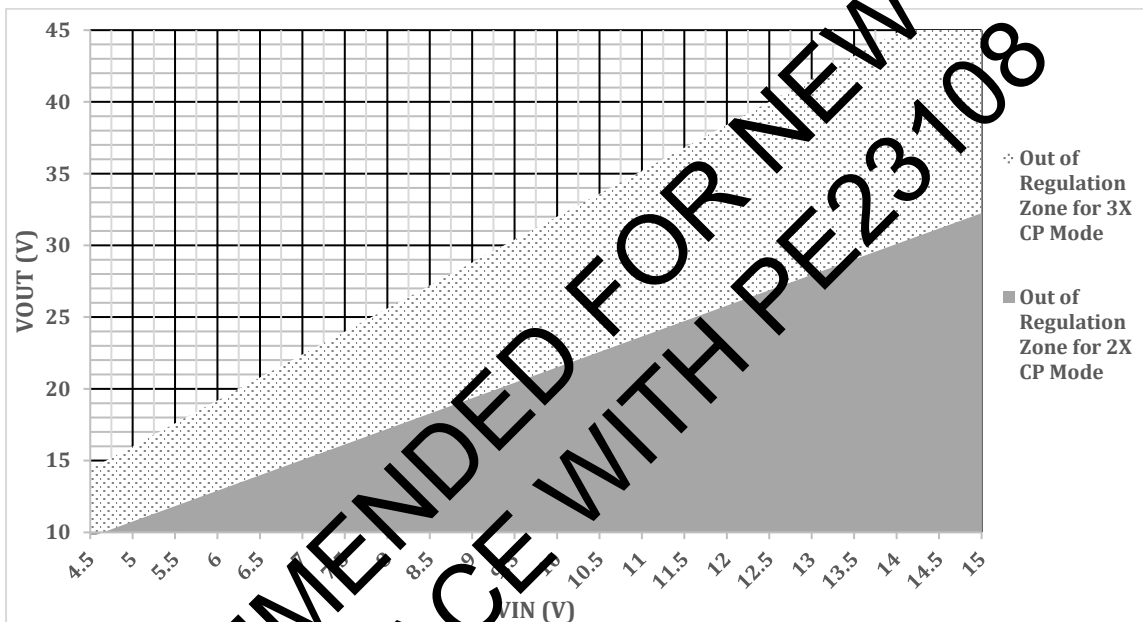

Figure 5. V_{OUT} vs V_{IN} Requirement
2. The V_{IN} and V_{OUT} ranges must meet the valid operating regions as shown in Figure 5.
Figure 5 shows a graph of the output voltage versus input voltage. In addition to maintaining the minimum V_{OUT}/V_{IN} requirement for the 2x/3x charge pump modes, the graph shows a region called “Out of Regulation Zone for 2x/3x Charge Pump Mode” not supported for normal operation. Failure to maintain the minimum V_{OUT}/V_{IN} requirement or attempting to operate in the “Out of Regulation Zone for 2x/3x Charge Pump Mode” could result in the ARC3C0845/ARC3C0845W having lower efficiency, faulting off, or requiring a restart. To prevent the VX over voltage condition, operate the charge pump in 3x charge pump mode for $V_{OUT} > 40V$.